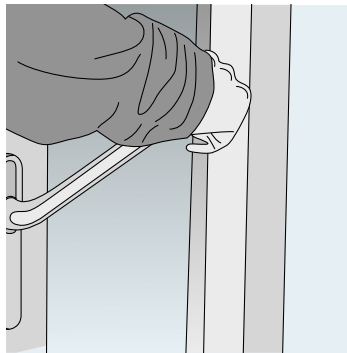

Figure 2
3. Hold the end of the door lever handle to avoid scratching the mullion during the movement (figure 2).